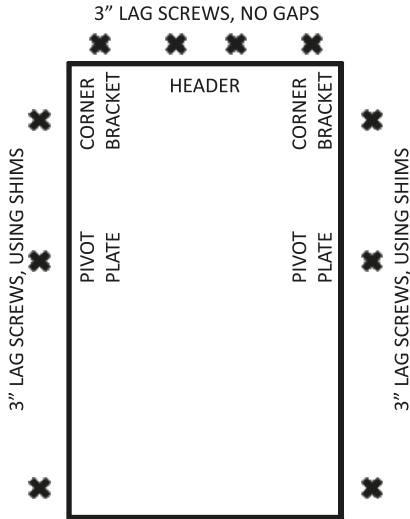

FIGURE 8: Aluminum and wood series
A. The ladder comes with pre-drilled holes for permanent installation at locations shown in Figure 8. Shim, when necessary to fill space between ladder frame and rough opening, at pre-drilled locations. Using 3/16" drill bit, drill 3" deep pilot holes through shim and into ceiling joists and header.